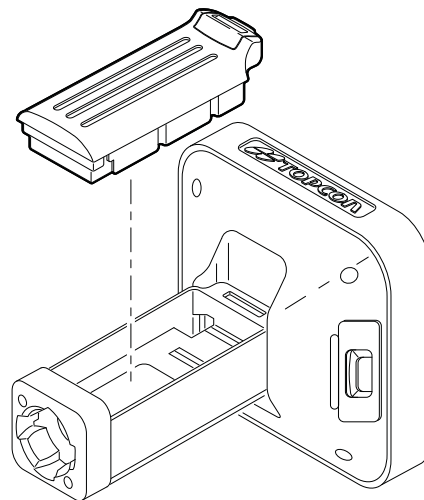

Figure 13: Inserting the GR-5 Batteries
To attach the batteries to the GR-5 (Figure 13):
4. Insert the AA battery shell into the battery compartment of the receiver as shown in Figure 13 on page 4-36.